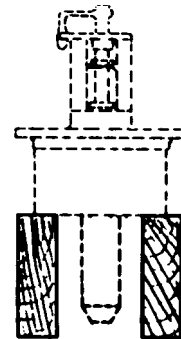

Figure 3
1. Remove bonnet and poppet assembly from valve and place on wooden blocks. (See Figure 3.)
2. Rest the bottom of the poppet on blocks. (See Figure 3.)